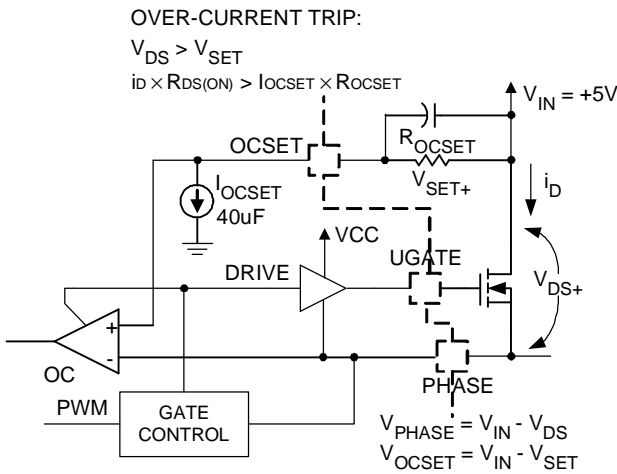

Figure 3
The over current protection (OCP) function of the RT9202 is triggered when the voltage across the $R_{DS(ON)}$ of upper side MOSFET that developed by drain current exceeds over-current tripping level. An external resistor (R_{OCSET}) programs the over-current tripping level of the PWM converter. As shown on Figure 3 the internal $40\mu\text{A}$ current sink (I_{OCSET}) develops a voltage across R_{OCSET} (V_{SET}) that is referenced to V_{IN} . The DRIVE signal enables the over-current comparator (OC). When the voltage across the upper MOSFET ($V_{DS(ON)}$) exceeds V_{SET} , the over-current comparator trips to set the over-current latch.